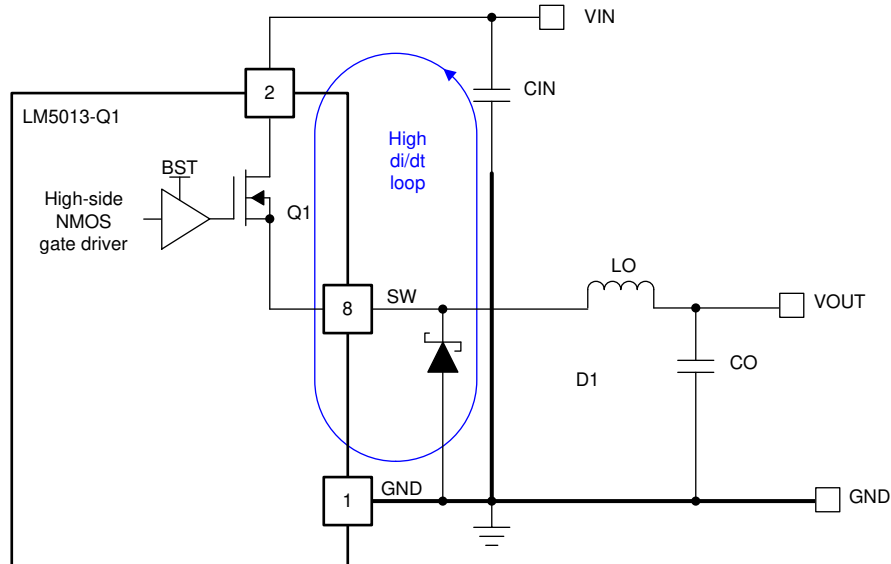

图 10-1. DC/DC Buck Converter With Power Stage Circuit Switching Loop
**图 10-1** denotes the critical switching loop of the buck converter power stage in terms of EMI. The topological architecture of a buck converter means that a particularly high di/dt current path exists in the loop comprising the input capacitor, the integrated MOSFET of the LM5013-Q1, and Schottky diode. It becomes mandatory to reduce the parasitic inductance of this loop by minimizing the effective loop area.